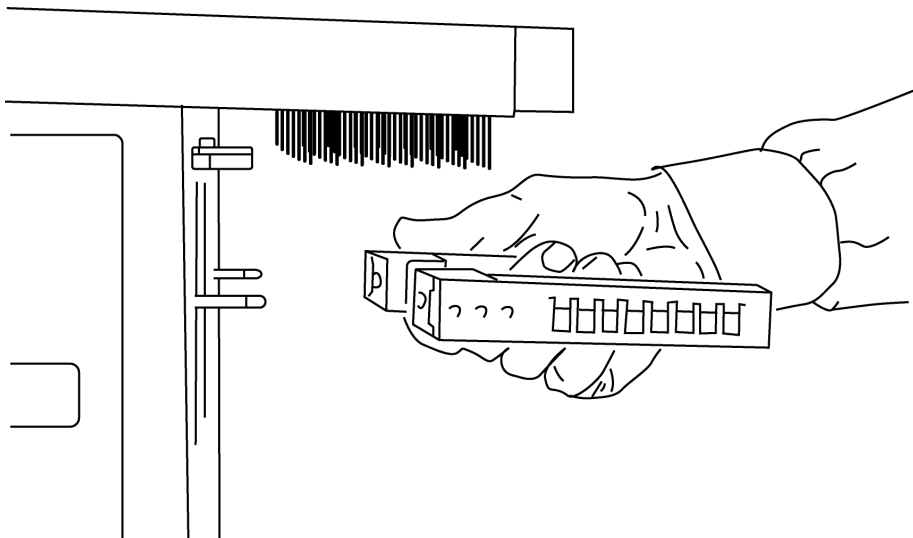

Figure 4: Microplate holder and lift
- ◆ Push the plate holder onto the two rods on the microplate lift (see Figure 4).